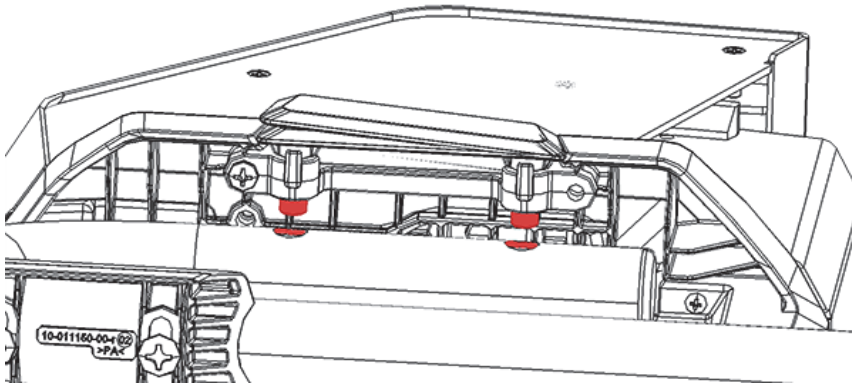

Figure B-8 Work Station chamber view from bottom
4. Slide the Work Station chamber back and forth to align the holes in the legs with the pins on the chamber (see Figure B-8 on page 114) until the pins lock into the legs with an audible click.
- ◆ Insert a Vanta battery into the battery receptacle on the rear of the Work Station (see Figure B-8 on page 114).
- ◆ Connect the DC power plug from the AC power adaptor to the DC power connector on the rear of the Work Station (see Figure B-8 on page 114).
2. Disconnect the DC power plug from the DC power connector on the rear of the Work Station (see Figure B-8 on page 114).